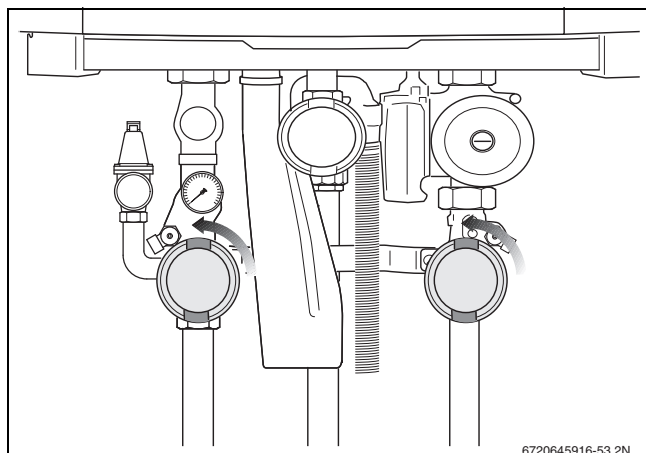

Fig. 57 Opening the isolating valves (here: open position)
- Open the heating supply and return isolating valves on the pump group (→ fig. 57). The open position is parallel to the pipe.